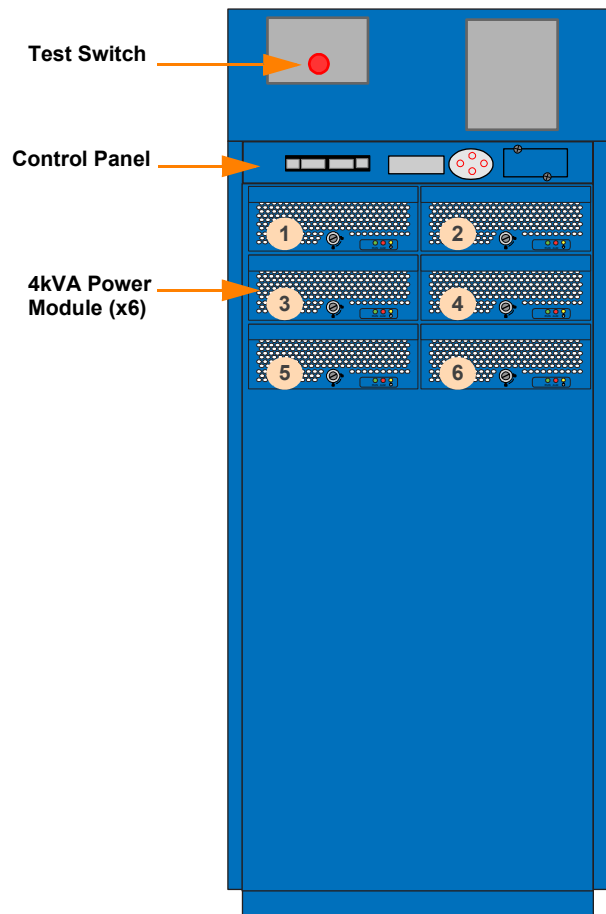

Figure 2.7 EL MOD Cabinet
The PowerWAVE EL MOD cabinet, shown in Figure 2.7, comprises up to six, 4kVA modules and a single control panel assembled in a purpose-designed chassis. The modules and the control panel can be fitted/removed from the front of the cabinet, making side and rear access unnecessary for servicing or repair.
The power modules are shelf-mounted and secured in place by a knurled, thumb-screw catch. Each module is assigned an ID number by the control system in order to identify a particular module for alarm and monitoring purposes. Figure 2.7 shows the designated module numbers.
**See Figure 2.7 for module positional identification*